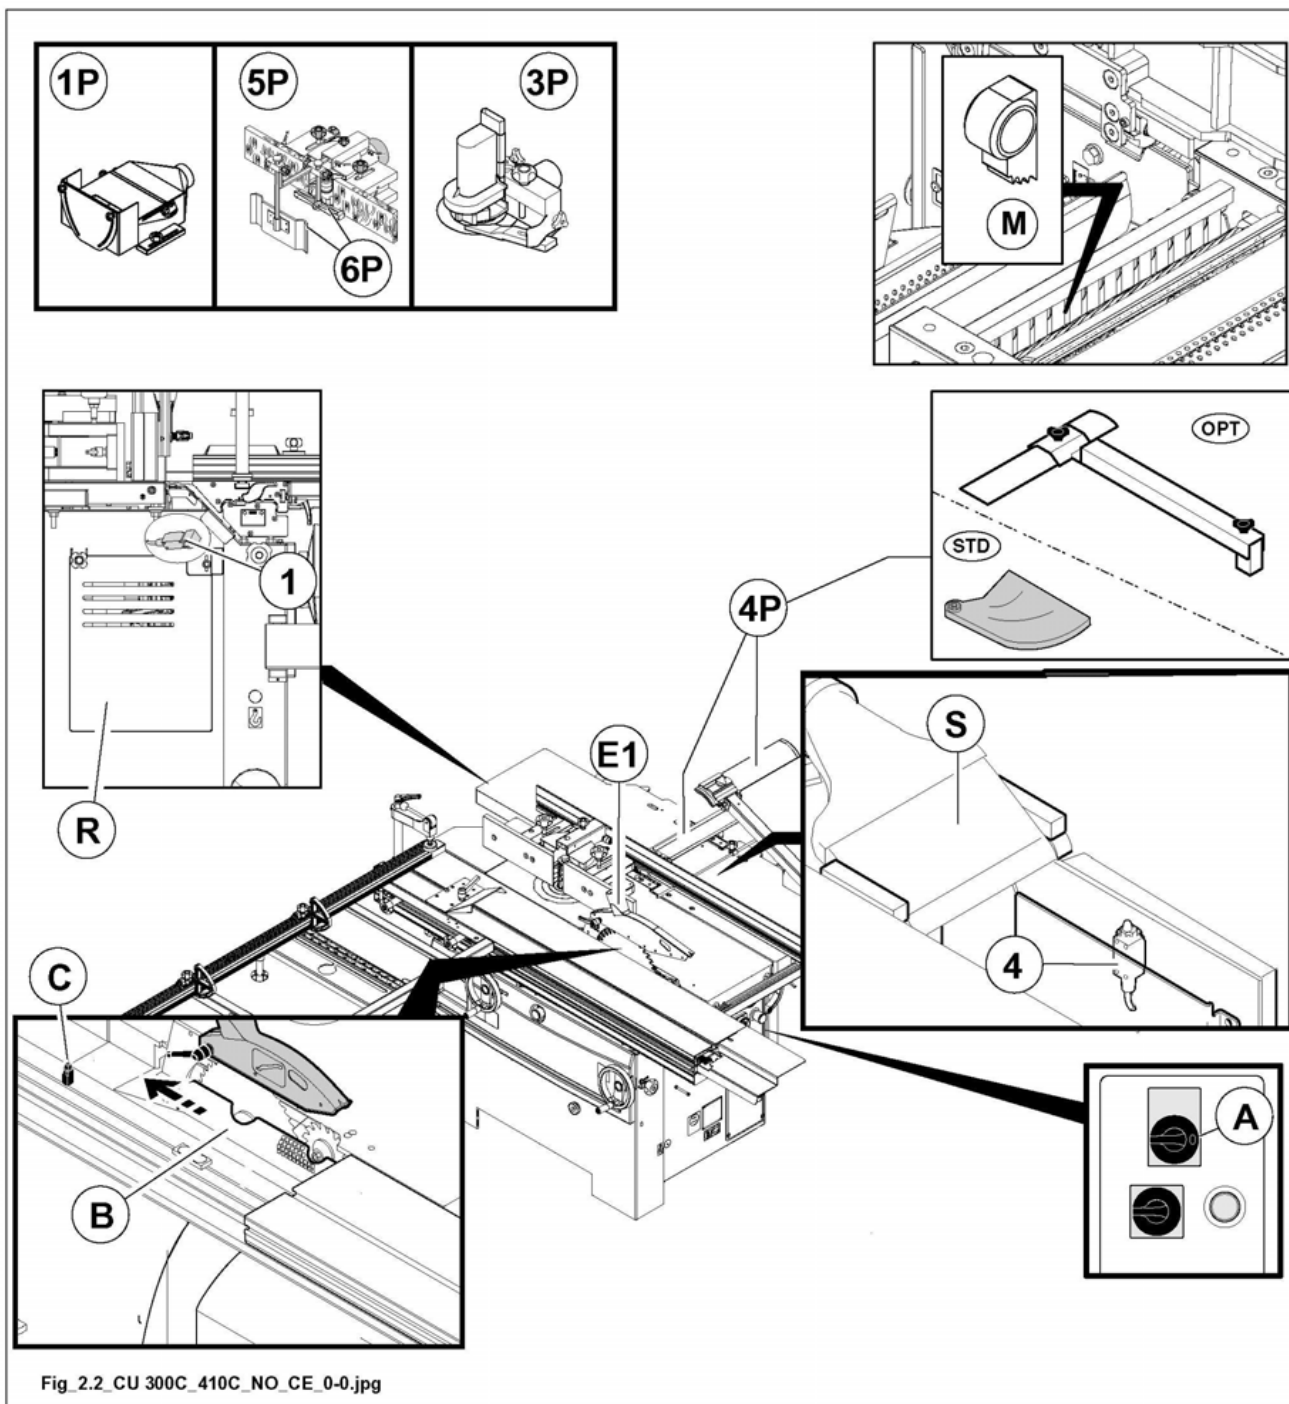

Fig. 2.2
2.2 ARRANGEMENT AND DESCRIPTION OF SAFETY DEVICES (FIG. 2.2)